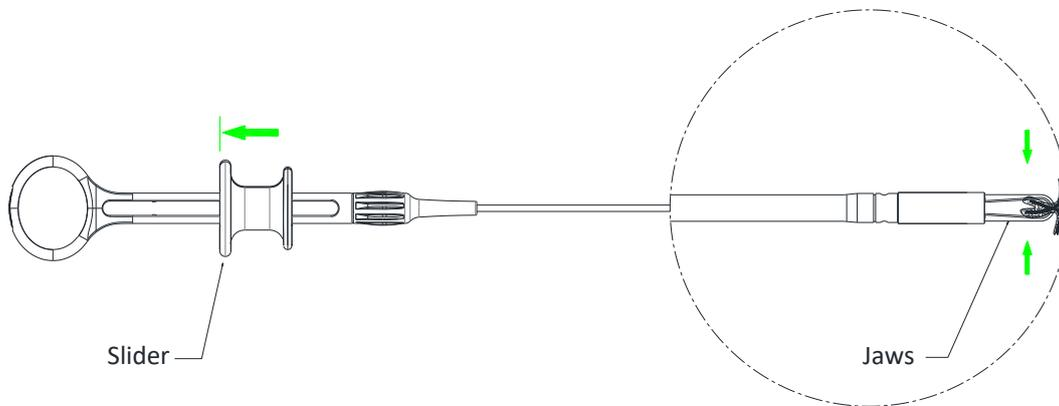

Figure 4: Close the Clip
5. To close the Jaws on the desired location, move the Slider proximally until tactile resistance is felt in the Handle, as shown in Figure 4. The Clip position may now be assessed prior to deployment.